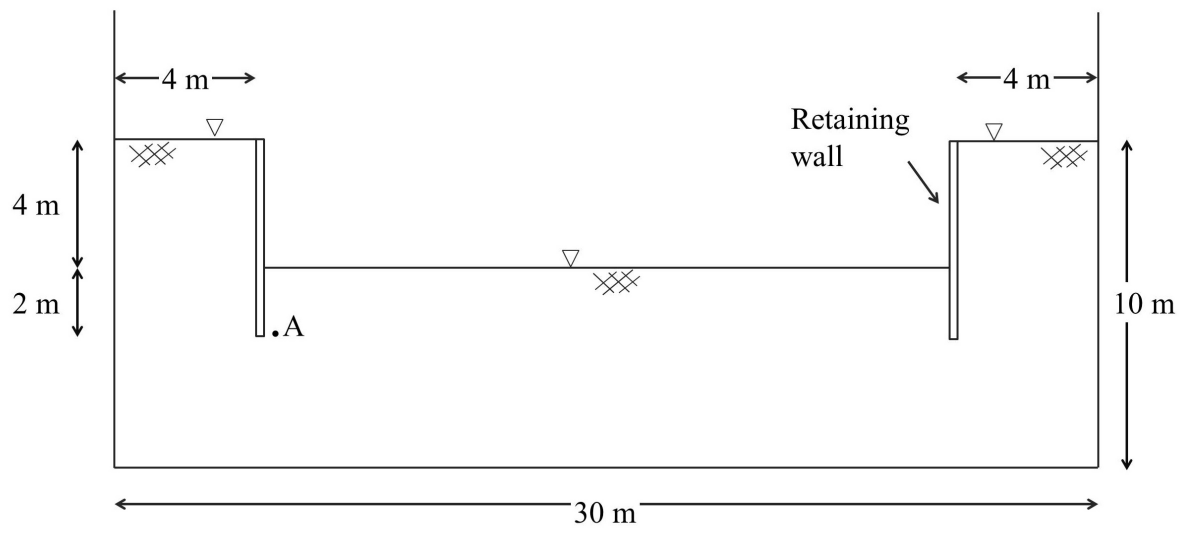

Fig. 1
Supplementary page: one extra copy of Fig. 1 (Question 1)
- (d) A large, 200 m long and 30 m wide, tank demonstration experiment is shown in Fig. 1. It involved the installation of two impermeable retaining walls in a saturated soil and the excavation of the soil in between as shown. The walls are propped to prevent rotational failure (props not shown). The water level is maintained at the ground level on both sides of the retaining walls. The permeability of the soil is $1 \times 10^{-5} \text{ m s}^{-1}$.
- (i) Draw a flow net at steady state planar seepage into the excavation on the extra copy of Fig. 1. Highlight the limitations of the flow net that you have constructed. You must submit this copy with your script. [25%]
Extra copy of Fig. 1 for Question 1.